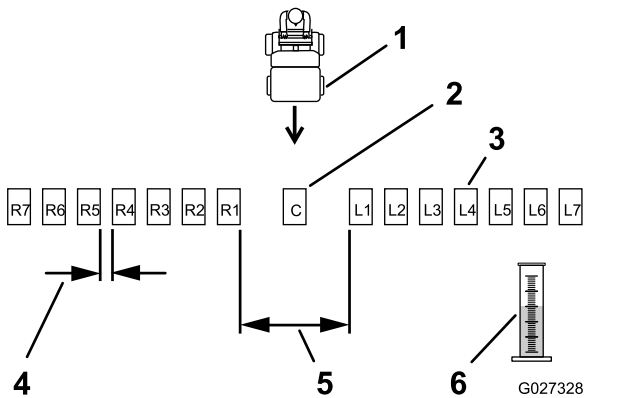
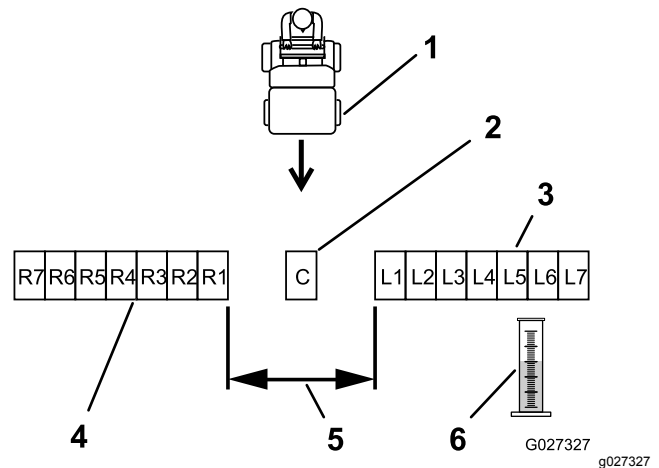

Figure 28
Figure 29
- Place the remaining pans in a straight line as shown in Figure 28 or Figure 29.
- Space 6 additional pans, on each side, 12 inches (30 cm) apart (Figure 28).
Place 6 additional pans, on each side, with no gap in between each pan (Figure 29).
6. Label each graduated measuring cylinder to correspond with the distribution pans (such as L2, L1, Center, R1, R2); refer to Figure 28 and Figure 29.